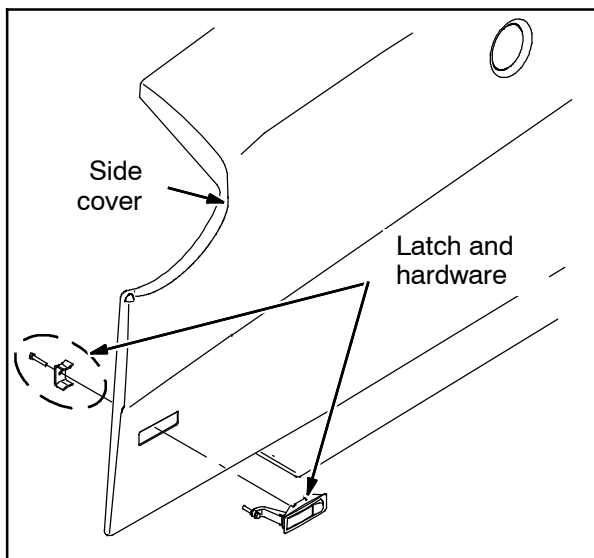

FIG. 23
30. Remove the side cover from the machine and then remove the latch from the side cover. Set the latch and hardware aside. Discard the side cover. (Fig. 23)